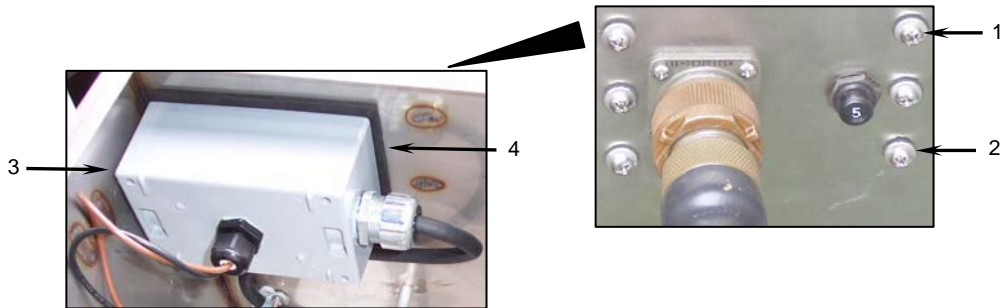

Figure 3. Removing the Grease Separator Weatherproof Box.
1. Remove the six machine screws (**Figure 3, Item 1**) and sealing washers (**Figure 3, Item 2**) that secure the weatherproof box (**Figure 3, Item 3**) to the wall of the grease separator.
2. Carefully pull the box away from the wall, taking care not to damage the gasket (**Figure 3, Item 4**).